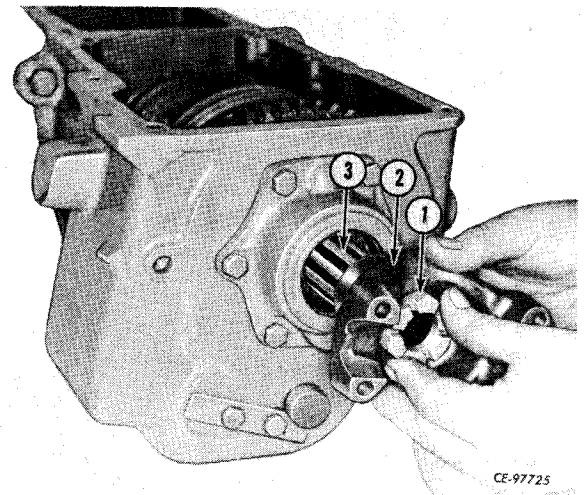

Figure 4-28
Remove main shaft nut (1, Fig. 4-28) and yoke (2) from main shaft (3).